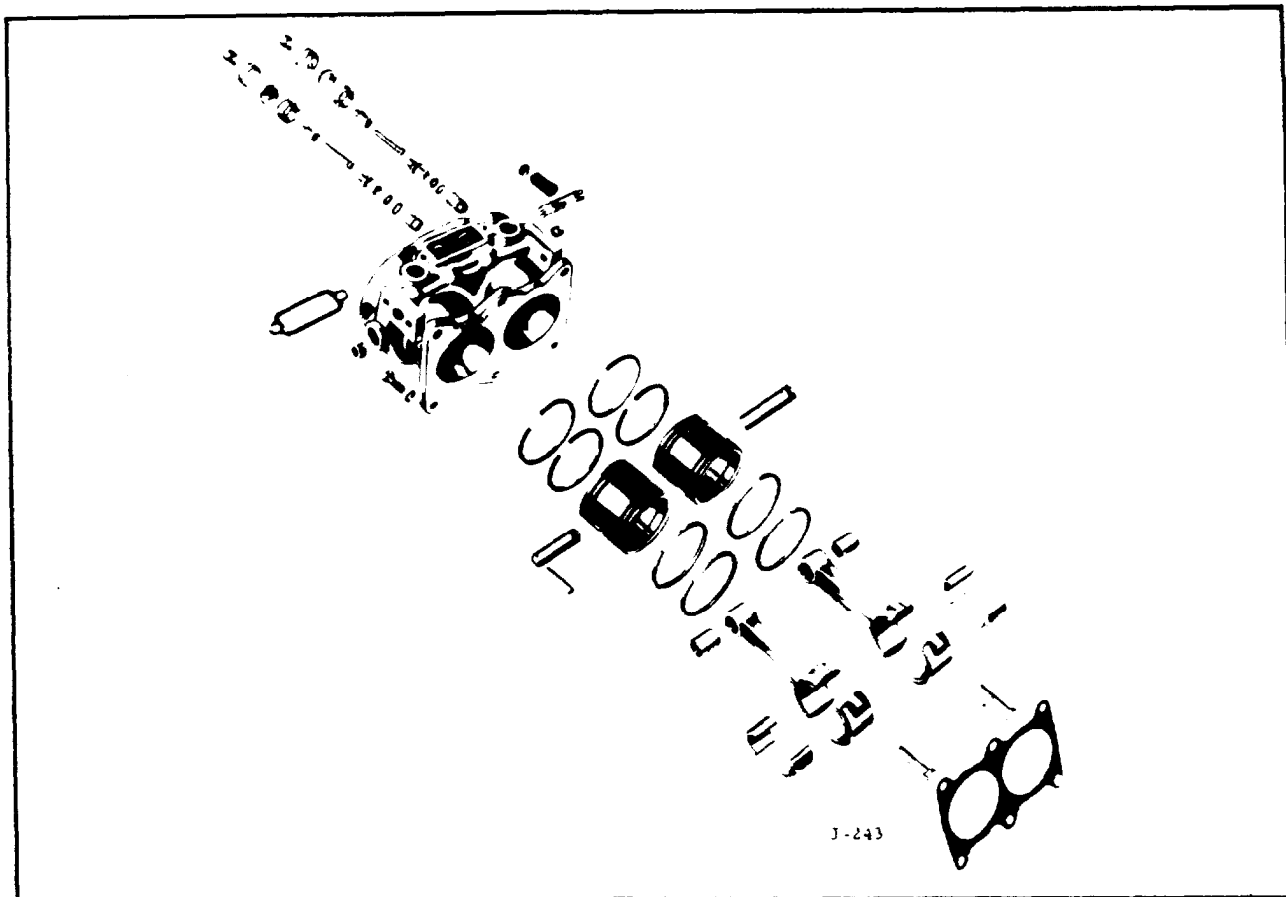

FIGURE 12-7 .
**12-25. DISASSEMBLY OF CONNECTING ROD ASSEMBLY** (see figure 12-7).
(see figure 12-7).